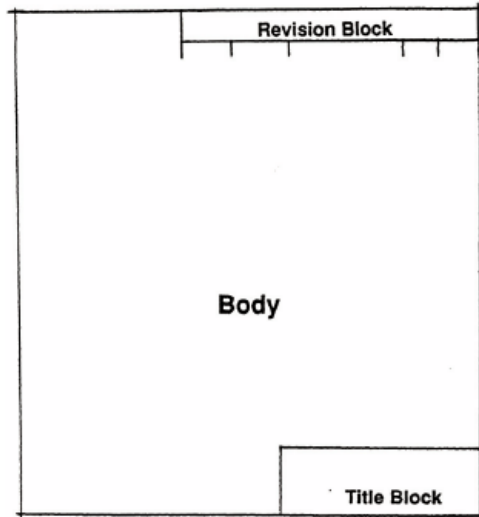

Fig. 1.1.
- ✚ Some general definition of the parts of design documents, regardless of size; drawings, specs, lists, and other documents, should have a common format. They should all have a *Body*, *Title Block*, and *Revision Block*, as seen in Fig. 1.1.